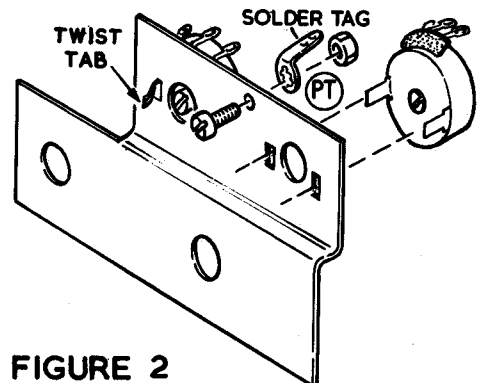

FIGURE 2
Refer to Figure 2 for the following steps:
- (✓) Mount the two controls on the bracket as shown in Figure 2.